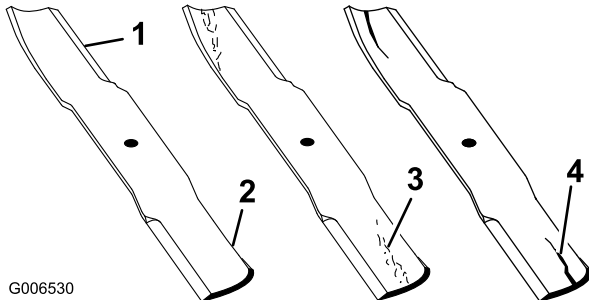

Figure 41
1. Inspect the cutting edges (Figure 41).
2. Inspect the blades, especially the curved area (Figure 41).
Note: If you notice any damage, wear, or a slot forming in this area (item 3 in Figure 41), immediately install a new blade.